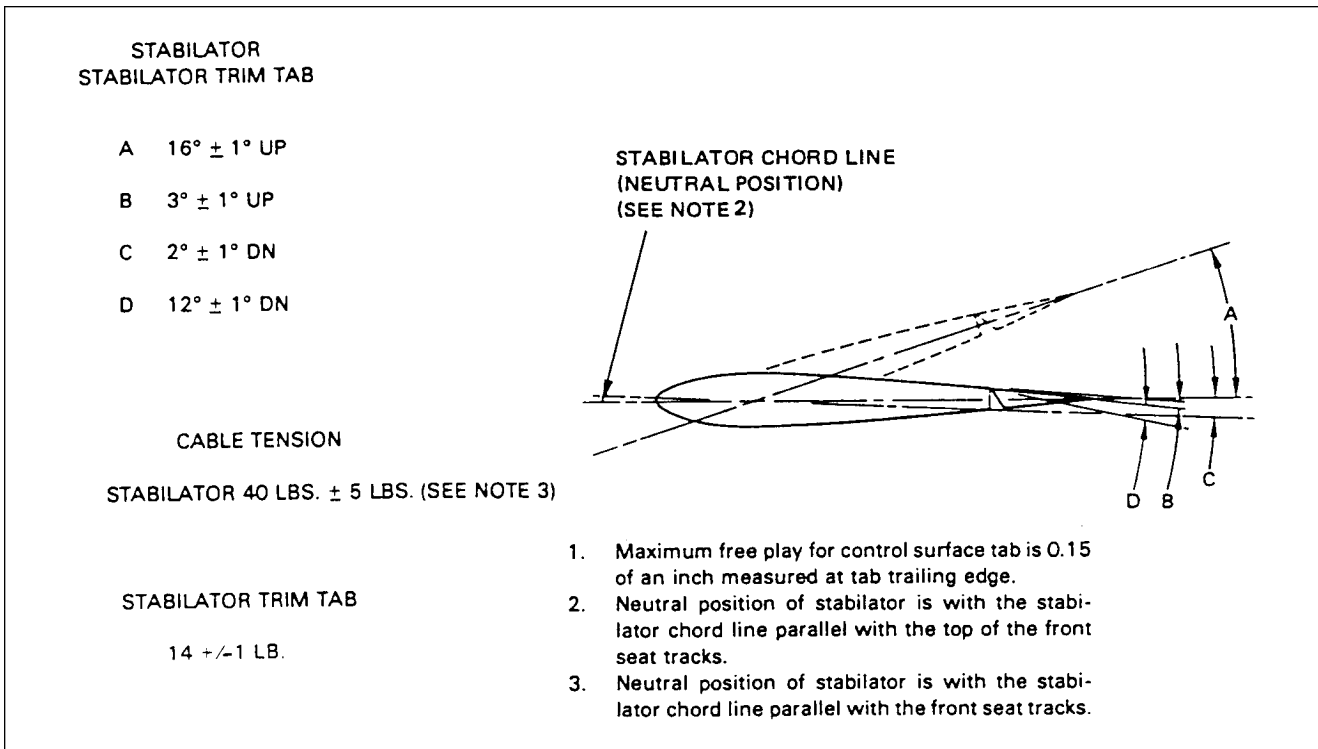

Figure 27-15. Stabilator and stabilator Trim Travel Adjustments
- b. On a bubble protractor, set number of degrees up travel as given in figure 27-15 and place it on rigging tool. Raise trailing edge of stabilator and determine when stabilator contacts its stops, bubble of protractor is centered.
- c. On protractor, set number of degrees down travel as given in Figure 27-15 and again place it on rigging tool. Lower trailing edge of stabilator and determine when it contacts its stops, bubble of protractor is centered.
- d. If stabilator travel is incorrect in either up or down position, remove tall cone fairing by removing attaching screws and with use of rigging tool and bubble protractor, turn stops located at each stabilator hinge in or out (refer to figure 27-15) to obtain correct degree of travel.
- d. Check each control cable for correct tension as given in figure 27-15.